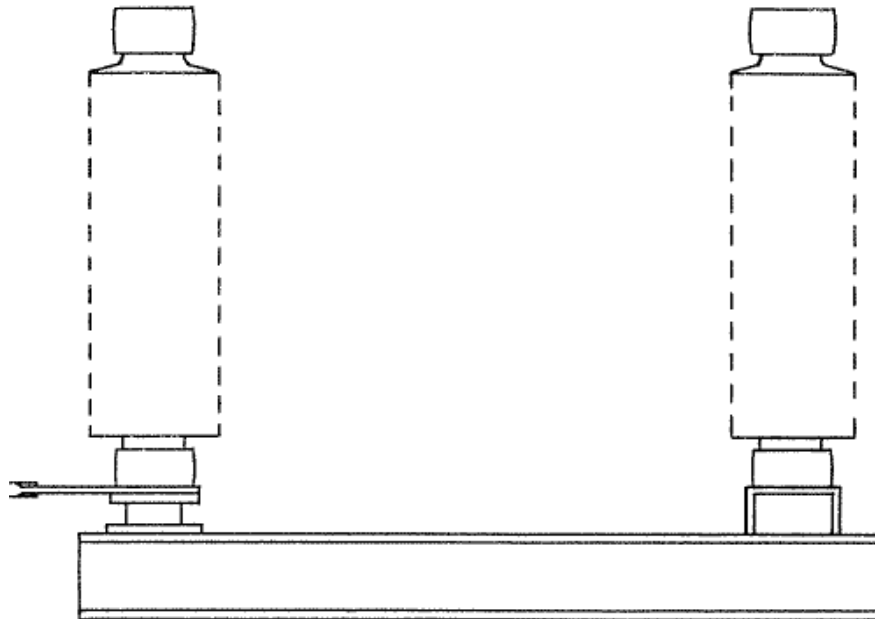

Figure 2: Insulator Attachment
3. Mount the insulators to the base mounting plates as shown in **Figure 2**, using the bolts indicated in the field assembly bolt list (SF Drawing).